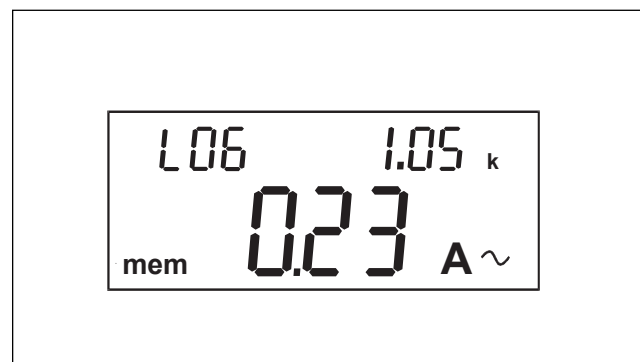

Fig. 8.6
- If the amount of recorded measurement values exceeds 999 during measurement function DATA LOGGER, the amount of values displayed is only maintained in steps of 10, in the right, upper corner of the LCD (see Fig. 8.6). Example: Display 1.05k corresponds to 1050 measurement values.